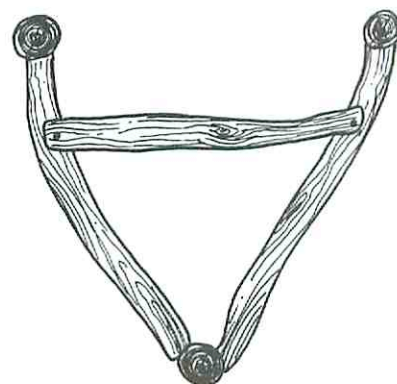

Figure 4
Install the deck supports (F) next. These will be screwed onto the ribs across the width of the boat about 5" from the gunwales. You will have to do some cutting to get the right fit. See Fig. 4.